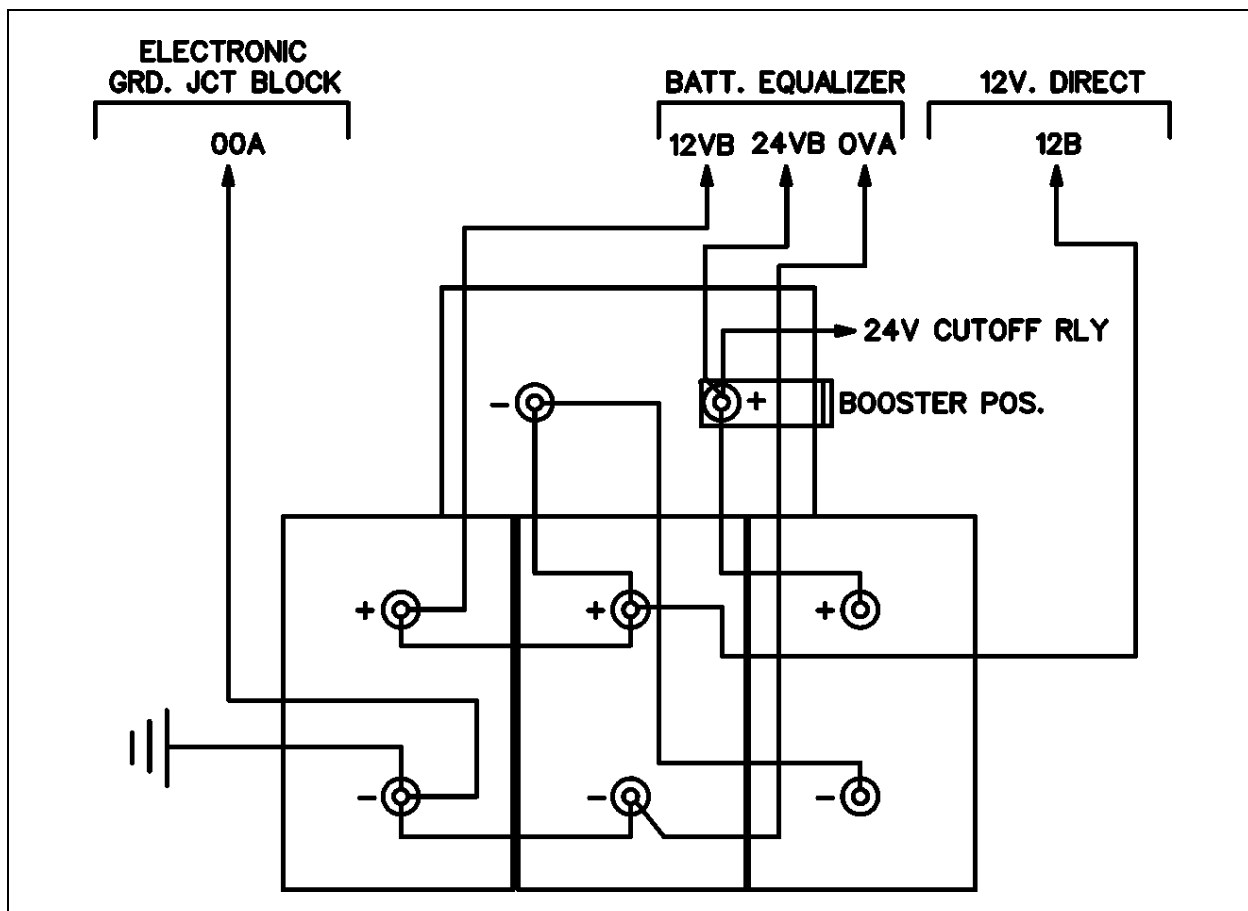

FIGURE 13: BATTERIES CONNECTIONS
The vehicle is provided with four (4) maintenance-free 12 volt heavy-duty batteries connected in series-parallel (Fig. 13). The top-mounted negative and positive terminals are tightly sealed to prevent leaks. Water never needs to be added to this type of battery. There are no filler caps in the cover. The battery is sealed, except for small vent holes in the cover. The vents must not be restricted as they allow small amounts of gases produced in the battery to escape. The special chemical composition inside the battery reduces gassing to a very small amount at normal charging voltages. Besides reducing gassing, the special chemistry greatly reduces the possibility of overcharge damage.
The batteries are located in the engine compartment R.H. side area (Fig. 13).